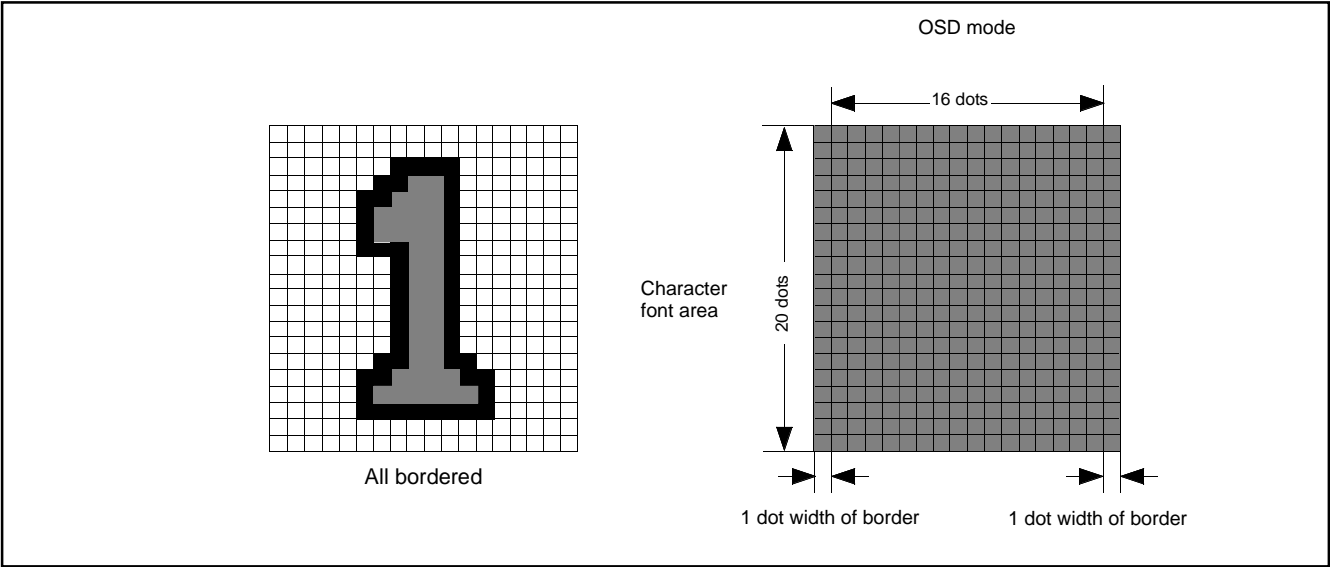

Fig. 8.11.20 Example of Border Display
- Notes 1 :** The border dot area is the shaded area as shown in Figure 8.11.20.